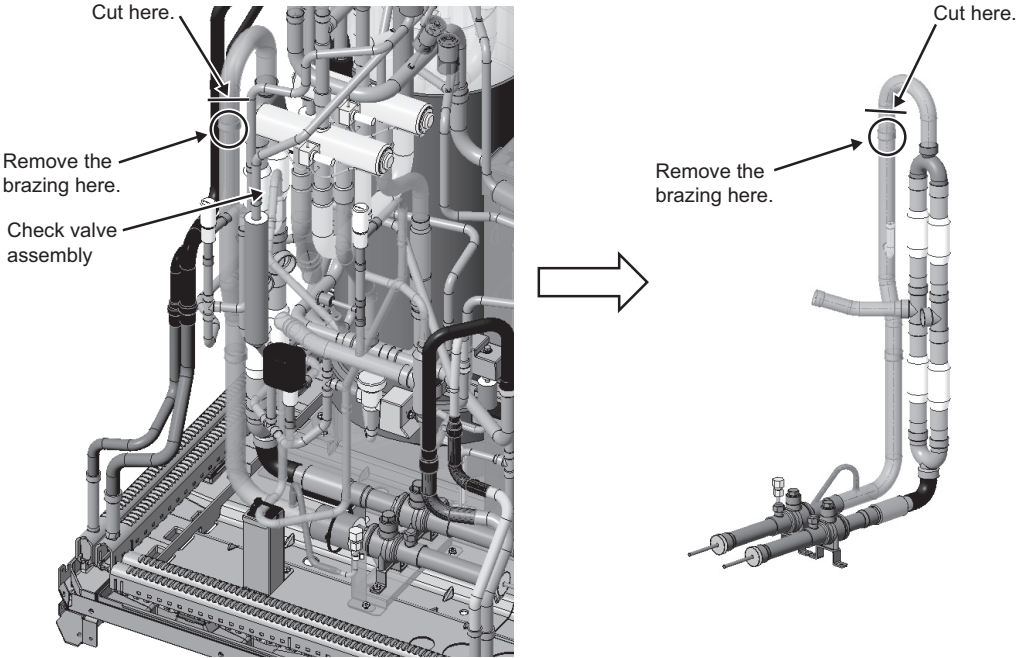

Fig. 4
(4) Cut the upper pipe of the check valve assembly using a pipe cutter or similar tool, as shown in the figure below. After cutting the pipe, remove the brazing from the pipe. (One point to cut and one area to remove brazing: Fig. 4)